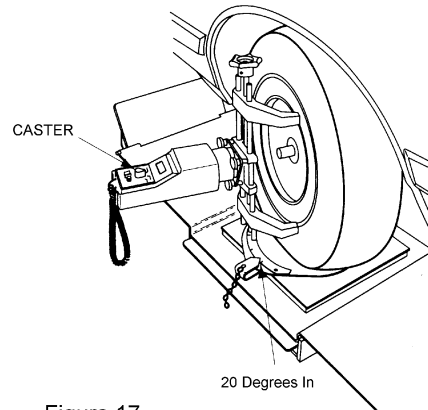

Figure 17
- 4) Turn the wheel inward at the front for a 20 degree reading on the radius gauge. (See Fig. 17) This is a total swing of 40 degrees.